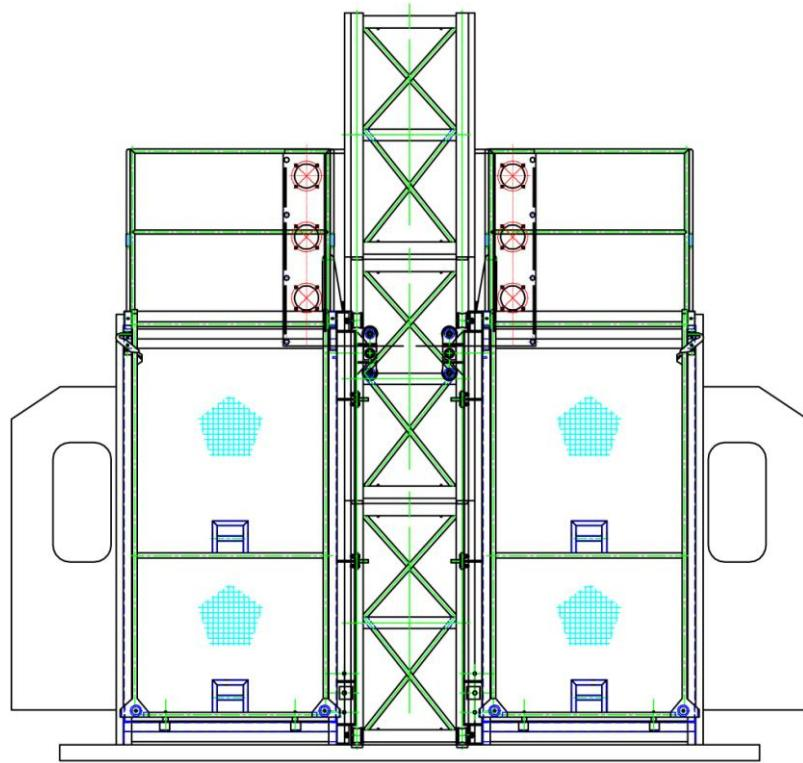

Figure 5
4.4.5 Put the driver bracket on the cage, Coupling bolts.(see figure 5)